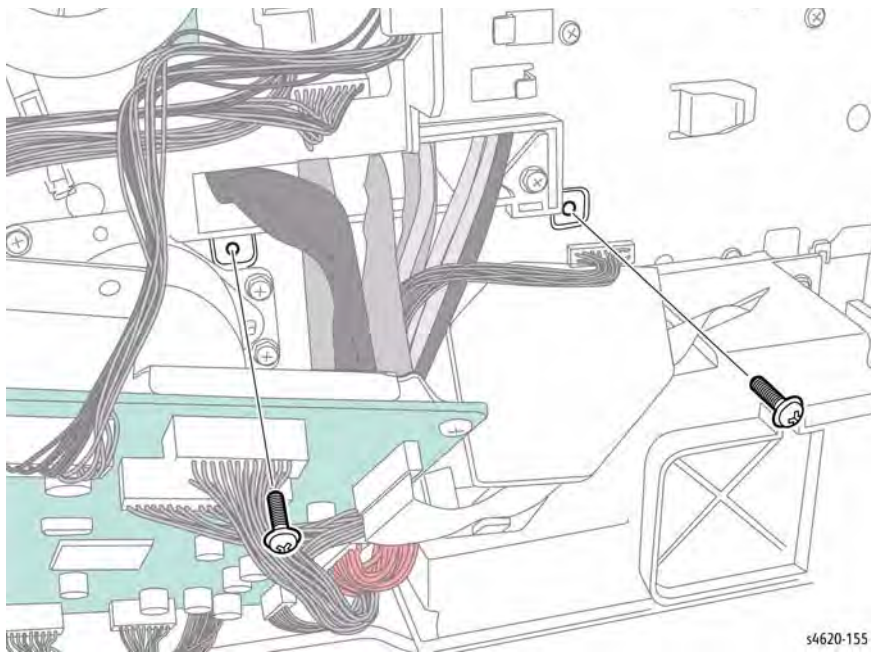

Figure 3 Remove the right side power supply tray screws
12. Remove 2 screws (metal) that secure the right side of the power supply tray to the chassis, Figure 3.